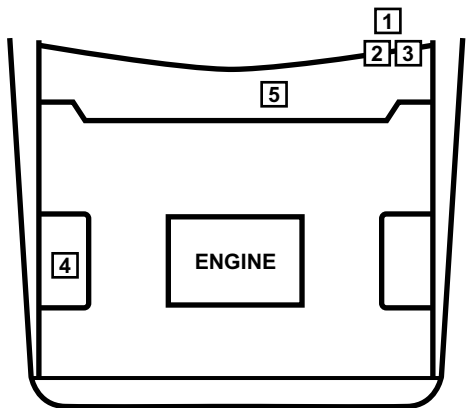

Figure 15-1 Carbureted engine common connector locations
- “Carbureted engine common connector locations” on page 176 (Table 15-1, Figure 15-1)